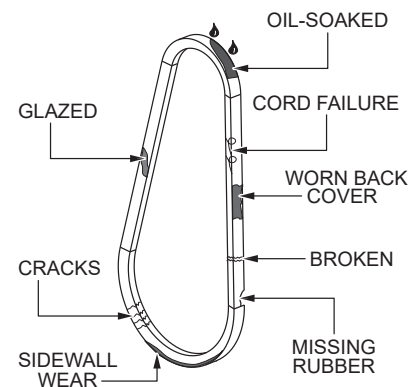

Figure 59. V-Belt Inspection
- Inspect the V-belt (Figure 59) to determine if it is frayed, peeling, full of tiny cracks, has pieces of rubber missing, or is otherwise damaged.
- Inspect the V-belt (Figure 59) to determine if it is oil-soaked or *glazed* (a hard, shiny appearance on the sides of the belt). Either of these conditions can cause overheating of the belt, which can weaken the belt and increase the possibility of it breaking.